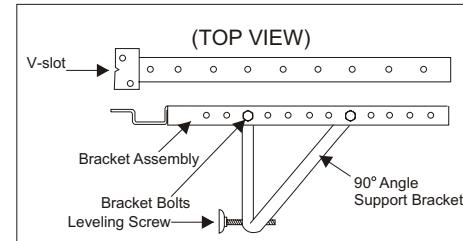

Fig. 5
A. Attach the bracket assembly to 90° angle support brackets (Fig. 5) using (2) 1 1/2" bolts